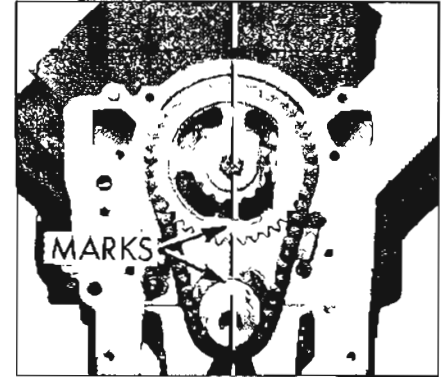

Figure 2-28—Proper Installation of V-6 Timing Chain and Sprocket
1. With timing chain cover removed (subpar. f above) temporarily install harmonic balancer bolt and washer in end of crankshaft. Turn crankshaft so sprockets are positioned as shown in Figure 2-28. Doing so will make it easier to reinstall parts. Remove harmonic balancer bolt and washer using a sharp rap on the wrench handle to start the bolt out without changing position of sprockets.
2. Turn camshaft so with sprocket temporarily installed, timing mark is straight down. See Figure 2-28. Remove sprocket.
and chain assembly on the shafts with the timing marks in their closest together position and in line with the sprocket hubs. See Figure 2-28.